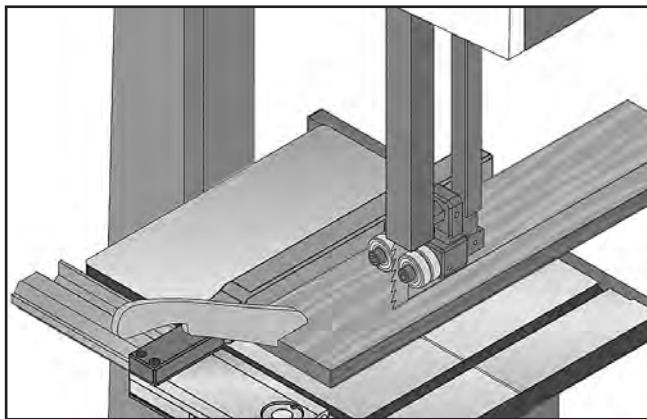

Figure 42. Example of typical ripping operation with a push stick.
3. After all safety precautions have been met, turn bandsaw **ON**. Slowly feed workpiece into blade and continue with cut until blade is completely through workpiece. **Figure 42** shows a typical ripping operation. **Note:** *If you are cutting narrow pieces, use a push stick to protect your fingers.*